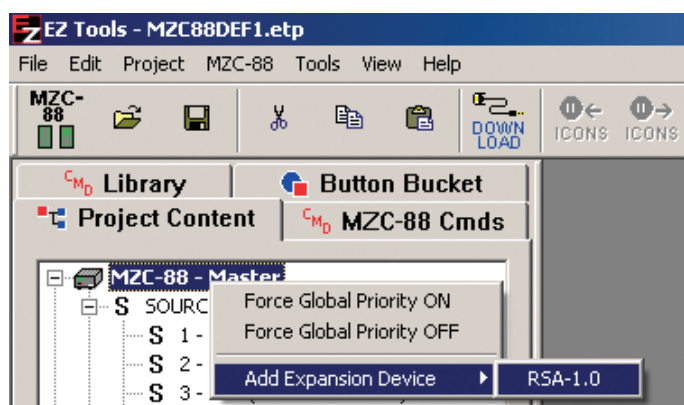

Figure 3
4. Left Click RSA-1.0 in the second pop-up window. (Refer to Figure 3) The Expansion Device Setup Window will appear. **NOTE:** An RSA-1.0 can also be added by right clicking the Expansion Devices icon at the bottom of the Project Content Window. Right click Expansion Devices, roll the mouse over the pop-up and left click RSA-1.0.